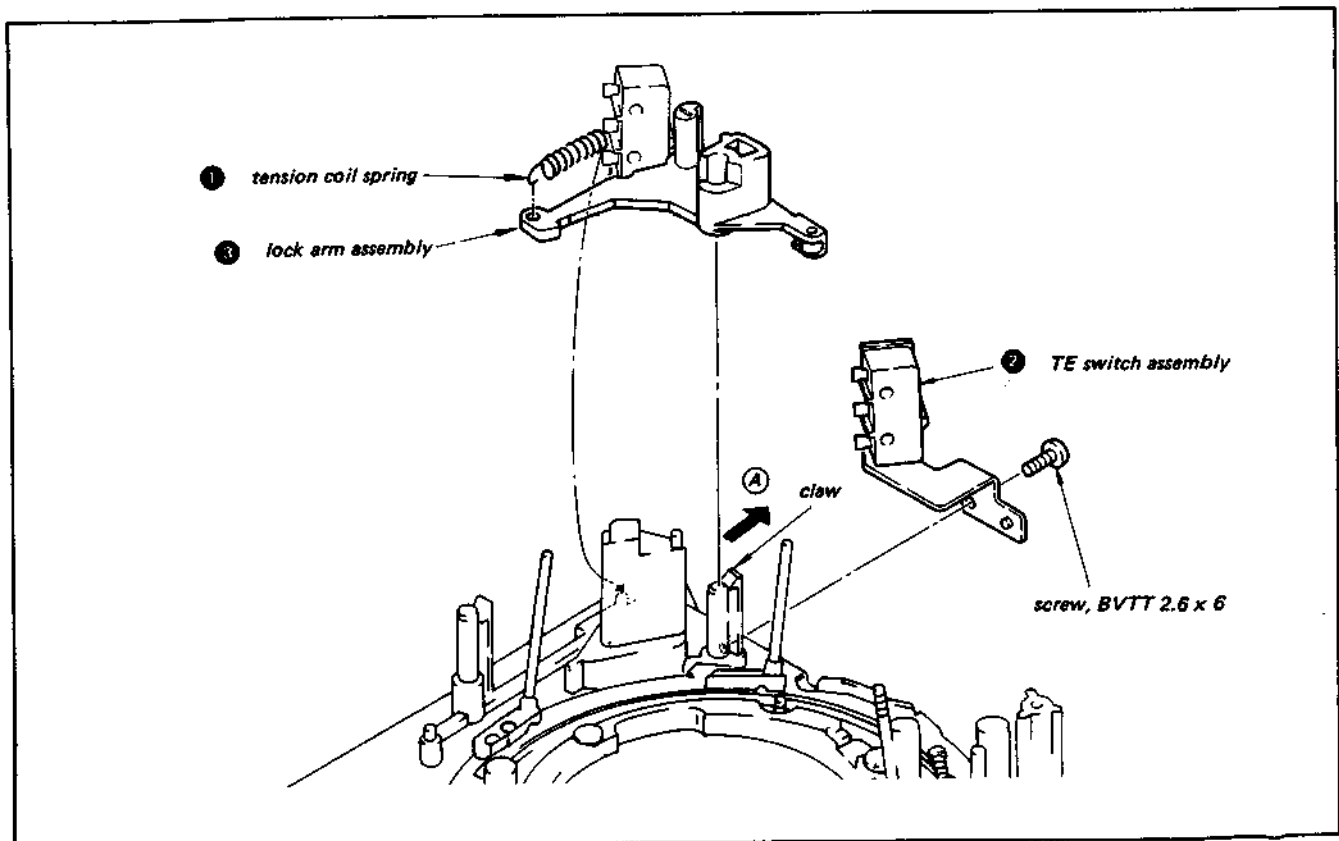
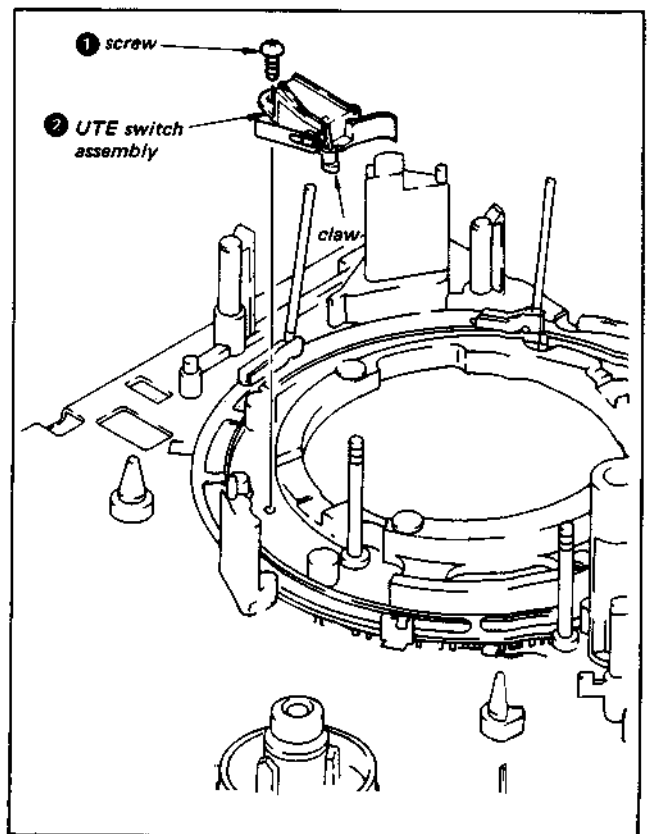

Fig. 3-26. Removal of the TE switch assembly and lock arm assembly
Fig. 3-30. Removal of the UTE switch.
- 1 Remove the tension coil spring from the lock arm assembly (refer to Fig. 3-26 in section 3-11-1).
- 2 Remove the washer and remove the ring roller (B).
- 3 Remove the group of parts in the unthreading end switch (for instructions on assembly and disassembly, refer to section 3-11-2 and Fig. 3-30).
- ① Remove the screw, as shown in Fig. 3-30.
- ② Remove the claw of the switch from the chassis, and then remove the main body of the switch while holding the actuator in the ON position.